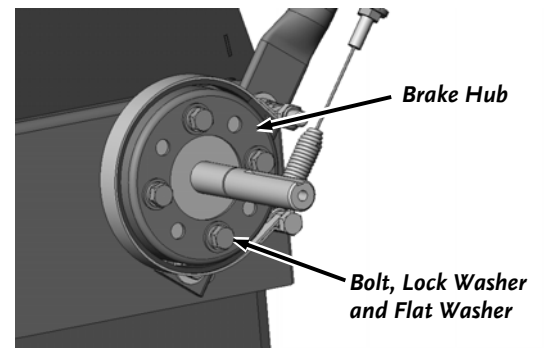

Figure 44
2. Remove the four Bolts, Lock Washers and Flat Washers from the Brake Drum with a 1/2" Wrench and pull the Drum from the Axle (**Figure 44**).